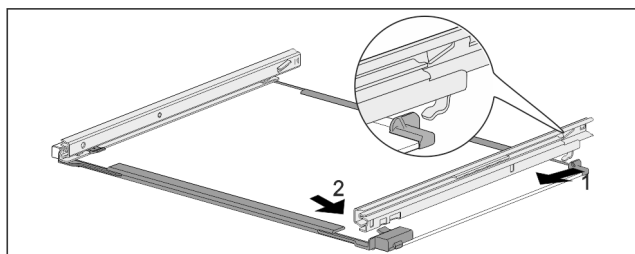

Fig. 266 Glass shelf with rails
- Hook in rail at the back. Fig. 266 (1)
- Hook in rail at the front. Fig. 266 (2)